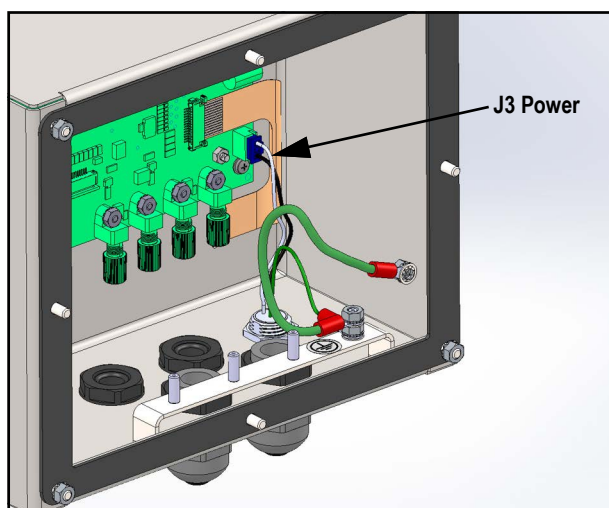

Figure 2-9. Connect DC Wiring
NOTE: The DC power cable should be attached to connector J4 (Figure 2-9 on page 24).
4. Run the other two wires up the side of the indicator and connect the three pin plug (PN 15888) to the power supply board as shown in Figure 2-9 and Table 2-6 on page 24.